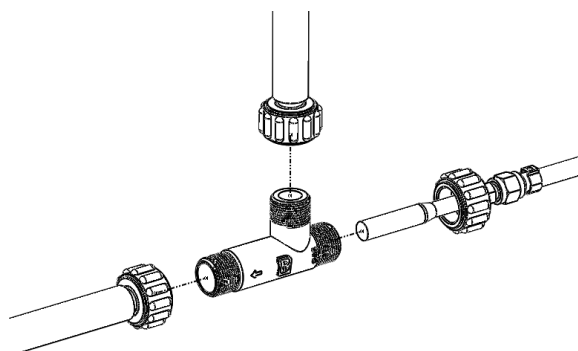
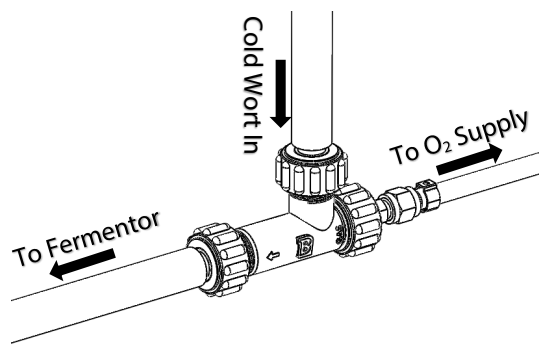

Figure 1.
Figure 2.
2. Assemble the In-Line Oxygenation kit as shown in Figure 1.
5. Begin pumping or draining chilled wort through the In-Line Oxygenation Kit as shown in Figure 2.
Ensure that the oxygen tank valve is firmly in the CLOSED position in Fig. 1. Turn the black knob on the end of the regulator so that it reads -0-, signifying it is in the off position. The number on the knob reads in Liters Per Minute (LPM). Connect the regulator to the tank using an adjustable wrench and tighten firmly as shown in Fig. 2. Referring to Fig. 3, install the gas outlet hose with ¼" flare connection (hose not included) by using a 12mm wrench on the outlet fitting on the regulator and a 9/16" wrench on the hose and tighten the fitting.